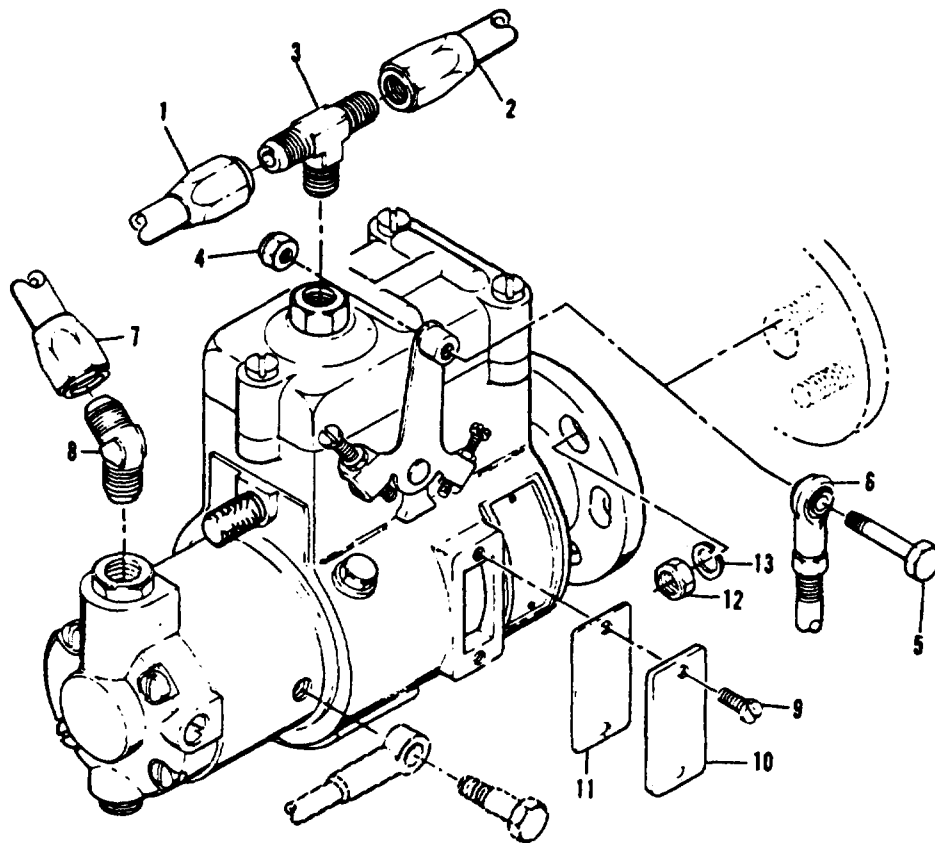

Figure 3-20. Fuel Injection Pump Assembly, Removal and Installation
- (1) Refer to the Operator and Unit Maintenance Manual and drain the day tank assembly.
- (2) Disconnect injector return lines (1 and 2, figure 3-20) and remove tee (3).
- (3) On precise sets, remove self-locking nut (4) and screw (5) to disconnect hydraulic actuator linkage (6). On utility sets disconnect the manual speed control.